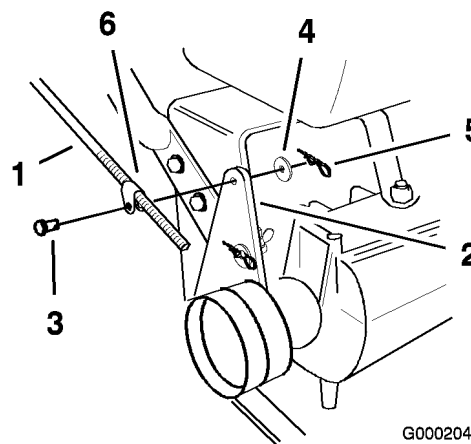

Figure 26
1. Remove hairpin cotter, washer and clevis pin securing control rod fitting to idler bracket (Figure 26).